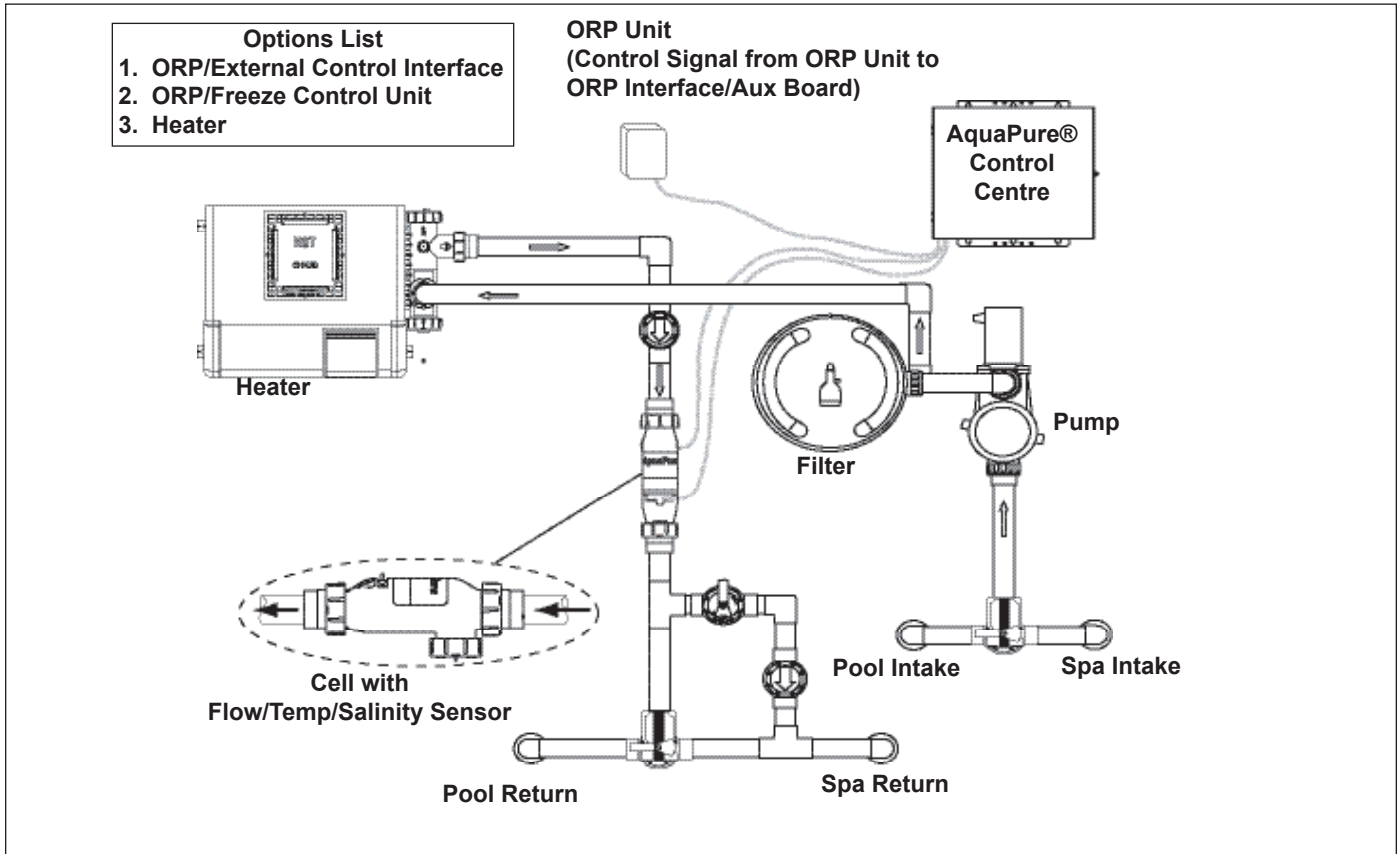

Figure 1. Typical AquaPure Installation Example With Options
It is required that the water flow/salinity sensor is installed in the same piping as the electrolytic cell, without any valves or diverters between them. (See Section 2, Figure 1).
3. Position the flow/temp/salinity sensor and cell in the recommended position (see Figures 1, 3, 4 and 5).